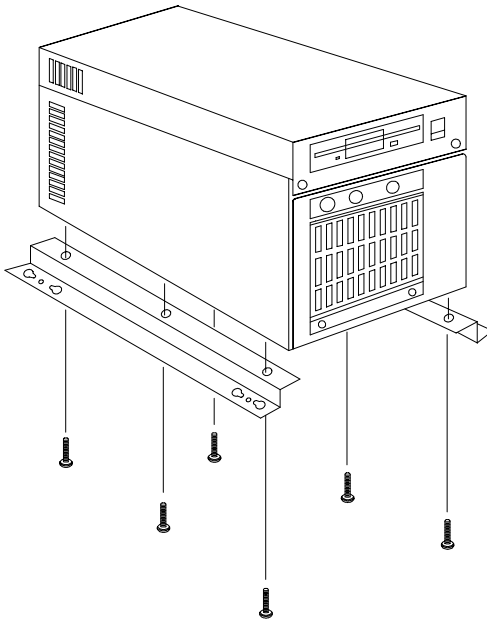

**Figure 2-3: Hold-down clamp installation**
1. Insert the rubber buffers (provided in your kit) into the hold-down clamp (see Fig. 2-3). These buffers cushion the plug-in cards from shock and vibration. They have two settings:
2. When you have finished inserting the rubber buffers, fasten the hold-down clamp to the card cage with the two screws provided (see Fig. 2-3).